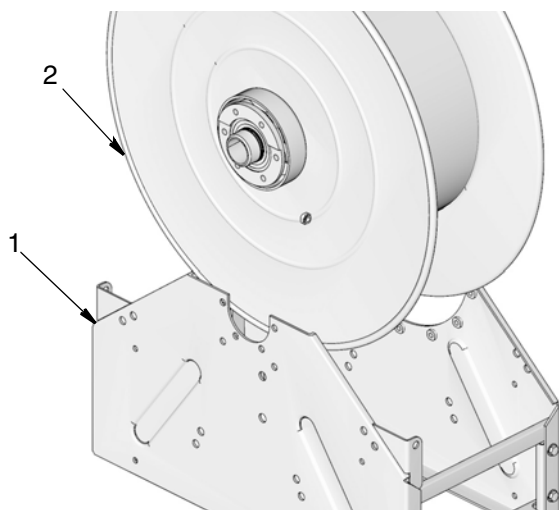

FIG. 23
13. Lift up spool (2) to remove it from base (1) (FIG. 23).